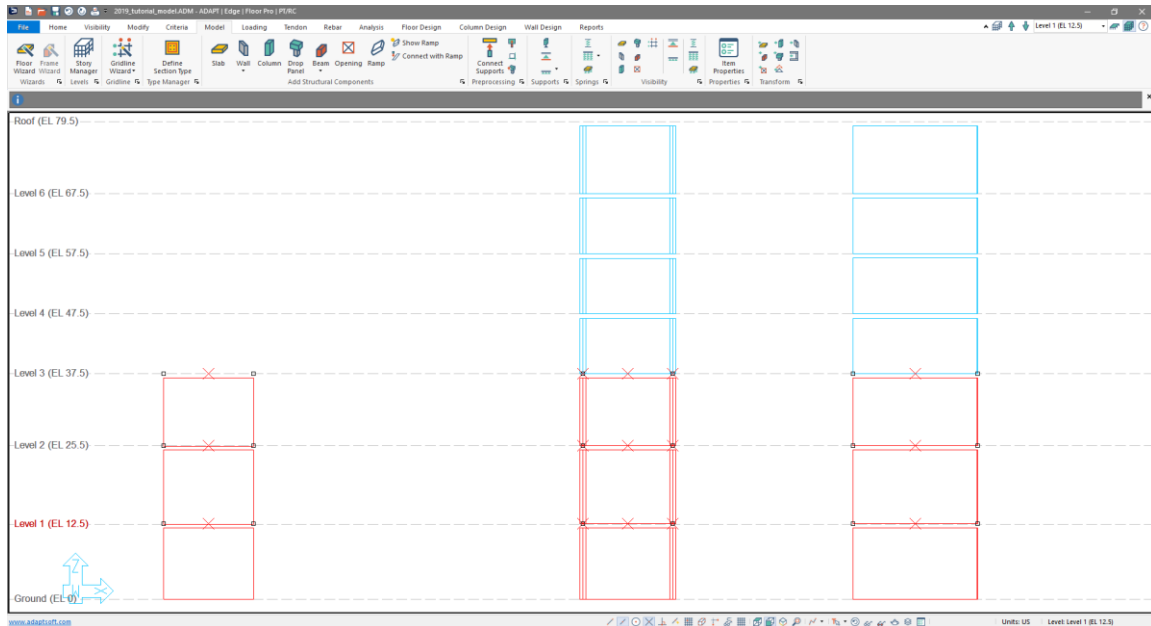

Figure 8-8
- Drag and select the walls under the Level 3 reference plane. Once they are selected your screen should resemble **FIGURE 8-8**.